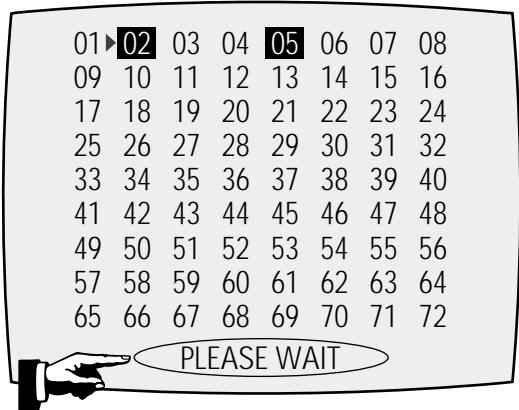

Fig. 5-15
- 5) Press the “MENU” button of remote control again to store the option number. (“PLEASE WAIT” is displayed for a second as shown Fig. 5-15 and this setting is completed.)